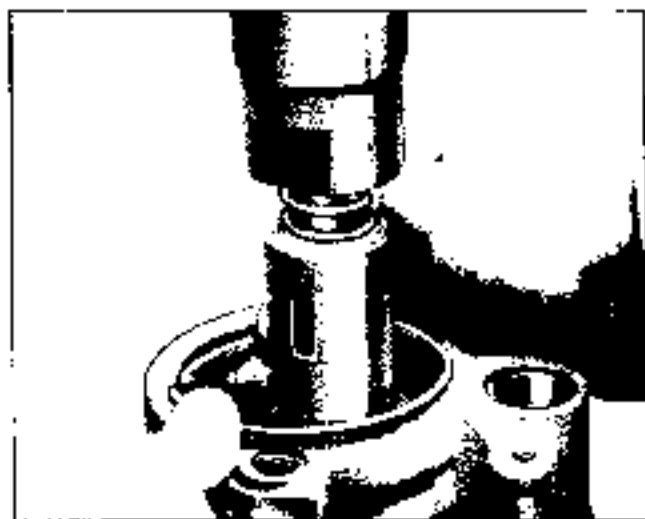

Fig. 9-87 Installing End Plate
11. Install end plate retaining ring while pump is in arbor press. Be sure it is completely seated in the groove of the housing (Fig. 9-87).